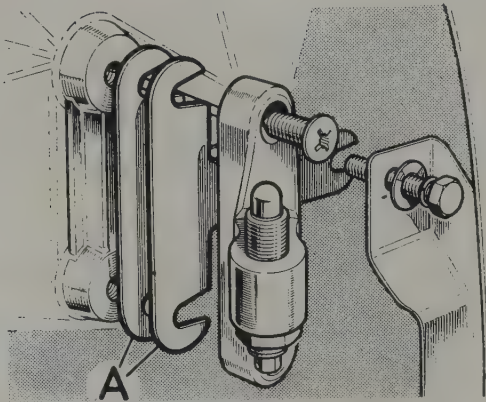

Fig. 12.2. Door hinge adjustment shims (A)
- Shims may be added or subtracted between the door hinge and the body so as to move the door either into or out of the door aperture (Fig. 12.2).